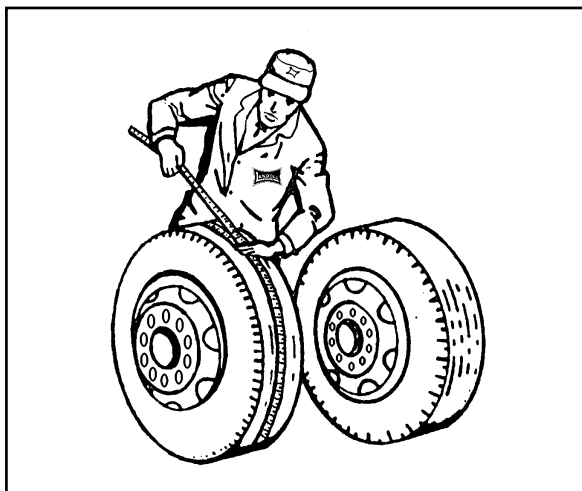

Figure 4-18 Measuring Tape Method
**a. Tape Measuring Method:** Measure around each tire on the tread surface. A maximum difference of 3/4" is allowed between the two mating tires of a dual (**See Figure 4-18**).